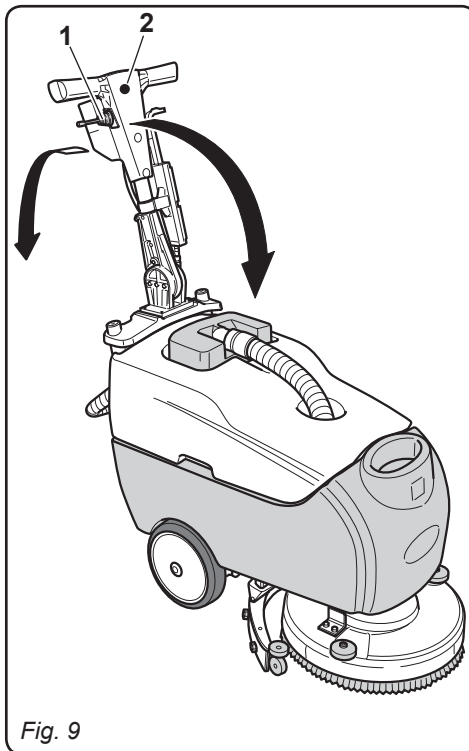

Fig. 9
7.1 LEVER FOR HANDLE ANGLE REGULATION (Fig. 9)
- By pulling on the lever (1), it is possible to vary the position of the handle (2); releasing the lever, the handle is positioned and locks in the nearest required position.